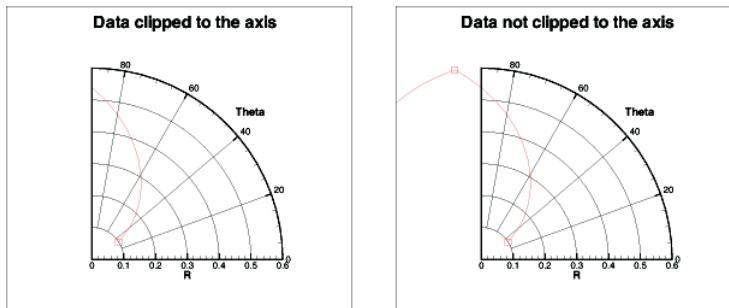

Figure 17-5. An example of clipping polar data to an axis.
- **Clip Data to axis** - For Polar Line plots, it is possible to have data that extends beyond the edges of the axes. Use this feature to eliminate data drawn outside of the range of the axes. Clipping data can be set independently for each axis. To activate or deactivate clipping, toggle “Clip Data to Axis” on or off. This feature is illustrated in Figure 17-5.